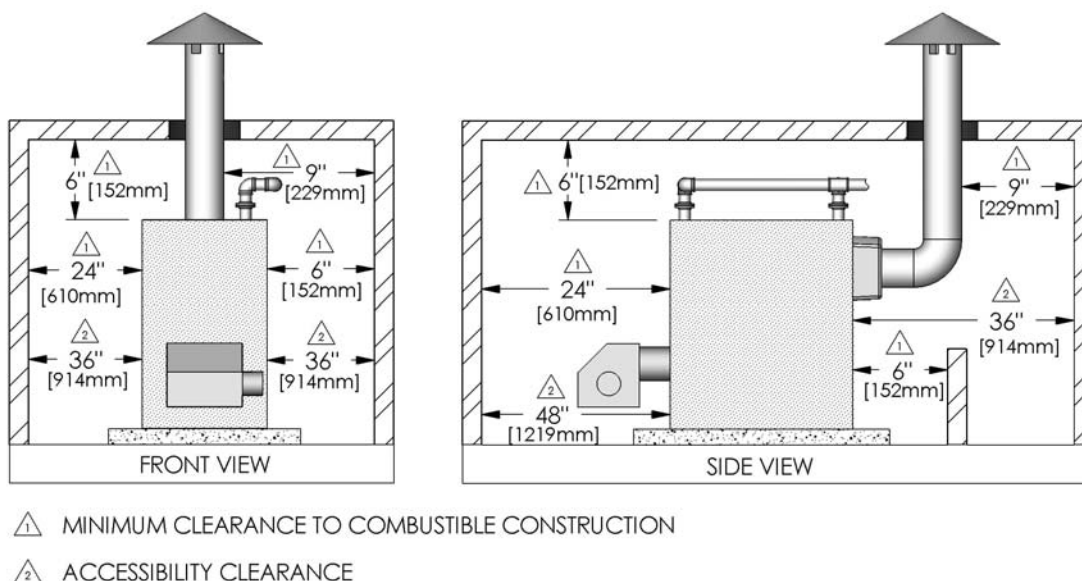

Figure 1.1: Clearance Requirements
- The minimum clearances to combustible materials, based on ANSI/NFPA 31 are as follows. See Figure 1.1.